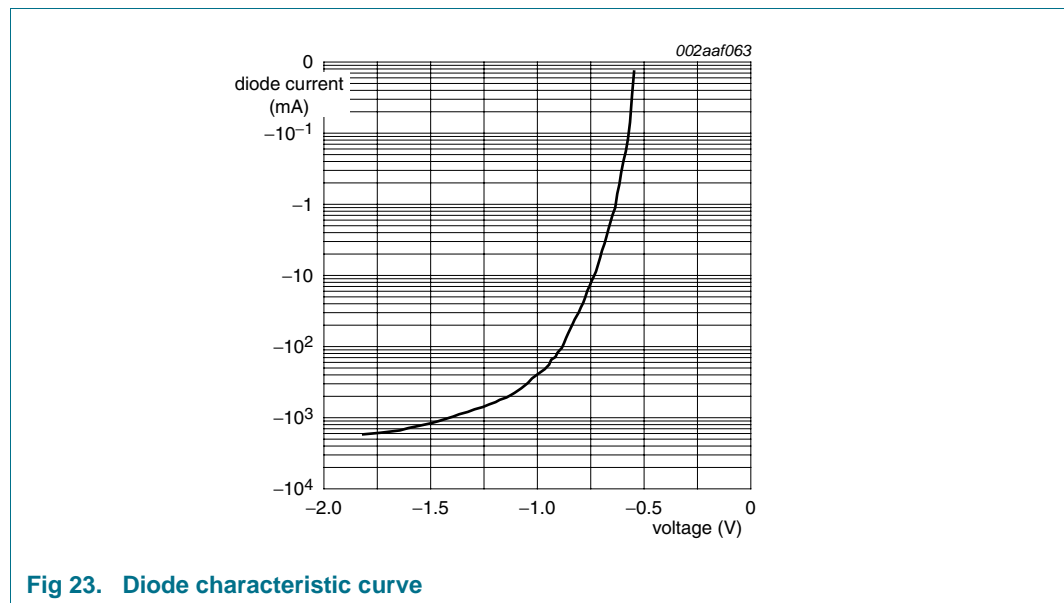

Fig 23. Diode characteristic curve
Figure 23 shows the measured characteristic for one of those diodes inside PCA9601. The plot was made using a curve tracer that applies 50 Hz mains voltage via a series resistor, so the pulse durations are long duration (several milliseconds) and are reaching peaks of over 2 A when more than  $-1.5\text{ V}$  is applied. The IC becomes very hot during this
For the PCA9601, in specific applications, there will always be transient overshoot and ringing on the wiring that can cause these diodes to conduct. Therefore we designed the IC to withstand those transients and as a part of the qualification procedure we made tests, using DC currents to more than twice the normal bus sink currents, to be sure that the IC was not affected by those currents. For example, the TX/TY and RX/RX pins were tested to at least -80 mA which, from Figure 23, would be more than -0.8 V. The correct functioning of the PCA9601 is not affected even by those large currents. The Absolute Maximum (DC) ratings are not intended to apply to transients but to steady state conditions. This explains why you will never see any problems in practice even if, during transients, more than -0.3 V is applied to the bus interface pins of PCA9601.
Figure 23 "Diode characteristic curve" also explains how the general Absolute Maximum DC specification was selected. The current at 25 °C is near zero at -0.55 V. The PCA9601 is allowed to operate with +125 °C junction and that would cause this diode voltage to decrease by  $100 \times 2 \text{ mV} = 200 \text{ mV}$ . So for zero current we need to specify -0.35 V and we publish -0.3 V just to have some extra margin.